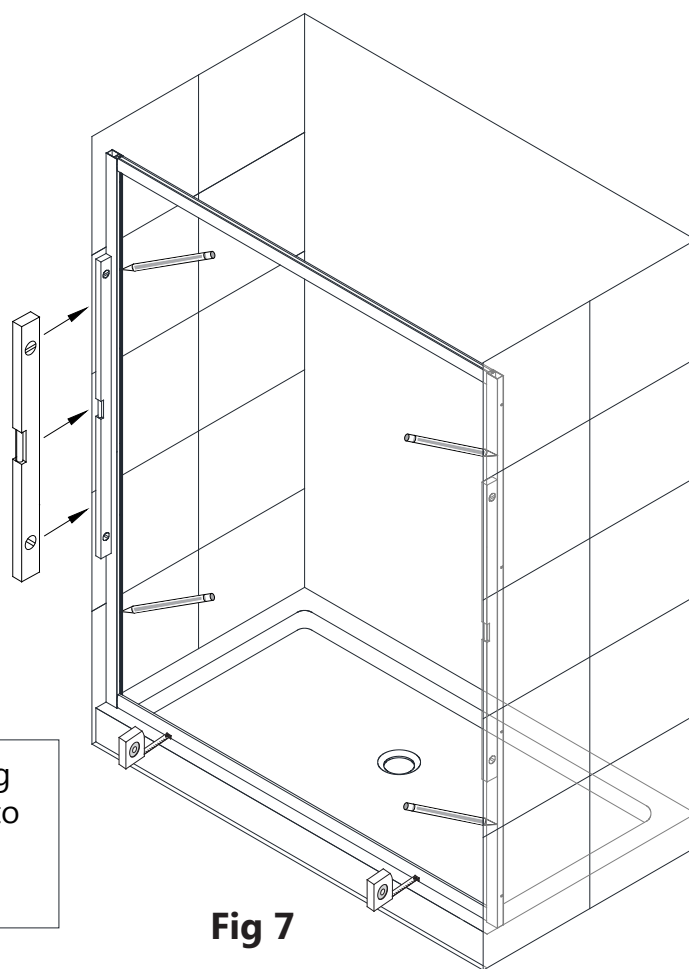

Fig 7
6. Move the assembled frame into the designated position on the shower base*, bathtub or threshold (depending on your installation), and push the **Wall Profiles (#02)** tight to the walls to compensate for any out-of-plumb conditions. Push the bottom rail down tight to the threshold and adjust the frame to a vertical position. Confirm with a level before marking the holes for drilling. (**Fig 7**)